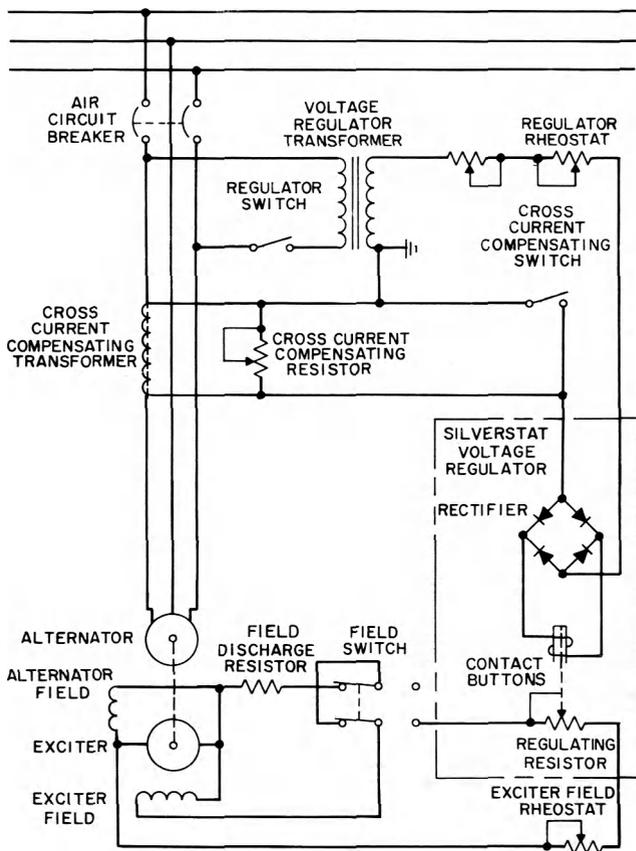

Fig. 5 — Voltage Control Circuit — 10-kw Set — Schematic — Single Phase
2.21 Placing Regulator in Service: Fig. 5—